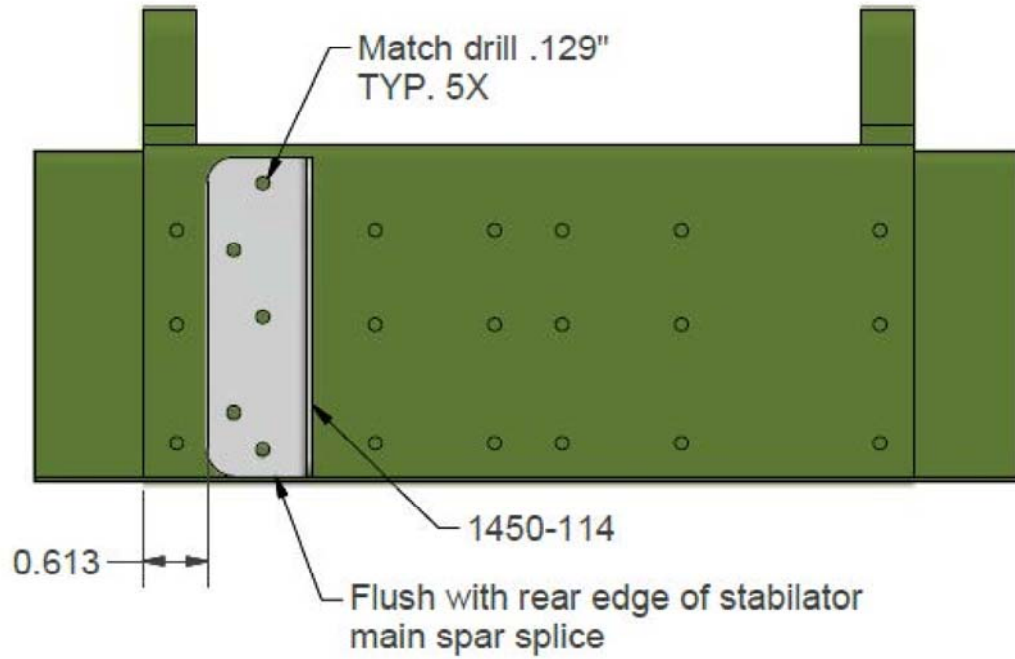

Figure 3-10
- (1) Position the Cessna 177 Pitch Arm (P/N 1450-114) on top of the stabilator as shown in Figure 3-10.